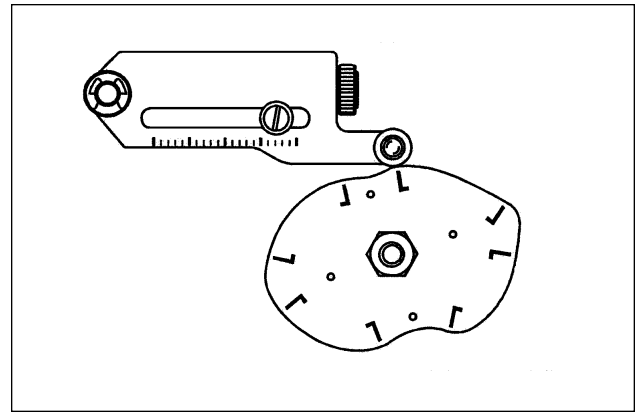

Figure 5: Alignment for Sereg Cams
6. Orient the cam to align the "L" shaped line located on the left side of the characteristic curve through the middle of the span arm roller. (See Figure 5.) The valve should be seated when this alignment is done. (See "Cam Installation" instructions.) For correct cam characteristics, see Table I.
B) For Sereg actuators, make sure the line on the left hand side of the characteristic curve is lined up through the middle of the span arm roller bearing. See Figure 5.